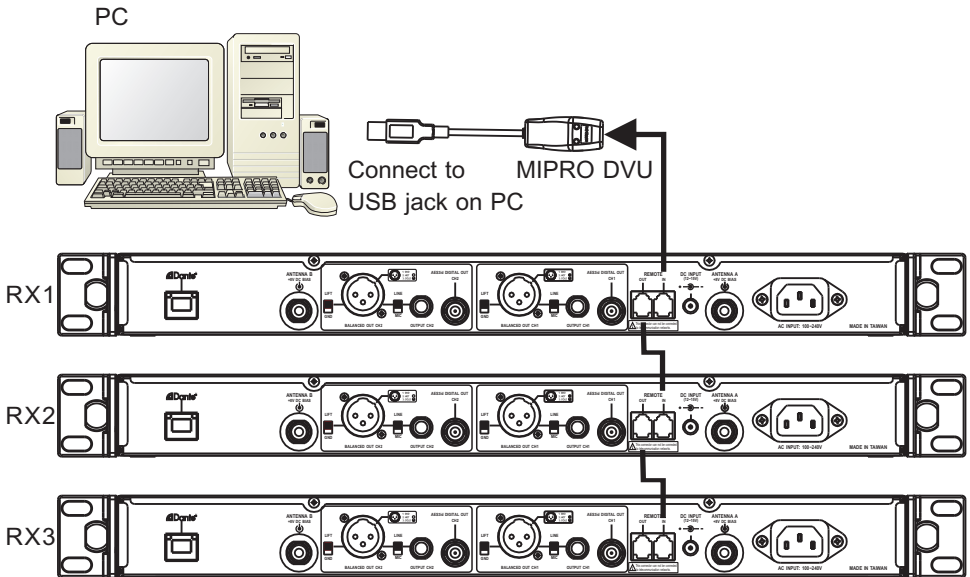

Fig. 27
2. MIPRO DV Wiring Instructions, Fig. 27:
- (A) Use supplied hardware cable for serial connection to MIPRO receivers and PC network interface connector 16 .
- (B) Next, using a USB connector, you can link to a computer USB PORT.
- (C) Up to 64 MIPRO channels can be connected, remote-controlled and monitored.
- (D) Best ideal network cable length for optimal transmission quality is less than 100 meters. 100-300 meters cable will have unstable transmission quality.